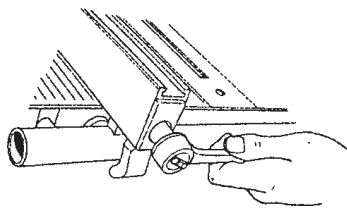

Figure B-92
- a. If too **tight**, raise the handle, then use a 1/2" socket and ratchet wrench to loosen the lock nut (217). When the clamp touches the table tube, loosen the lock nut 1/8 turn or less. See Figure B-92.
- b. If too **loose**, lock the handle, then use a 1/2" socket and ratchet wrench to tighten the lock nut (217). When the clamp touches the table tube, loosen the lock nut 1/8 turn or less. See Figure B-92.